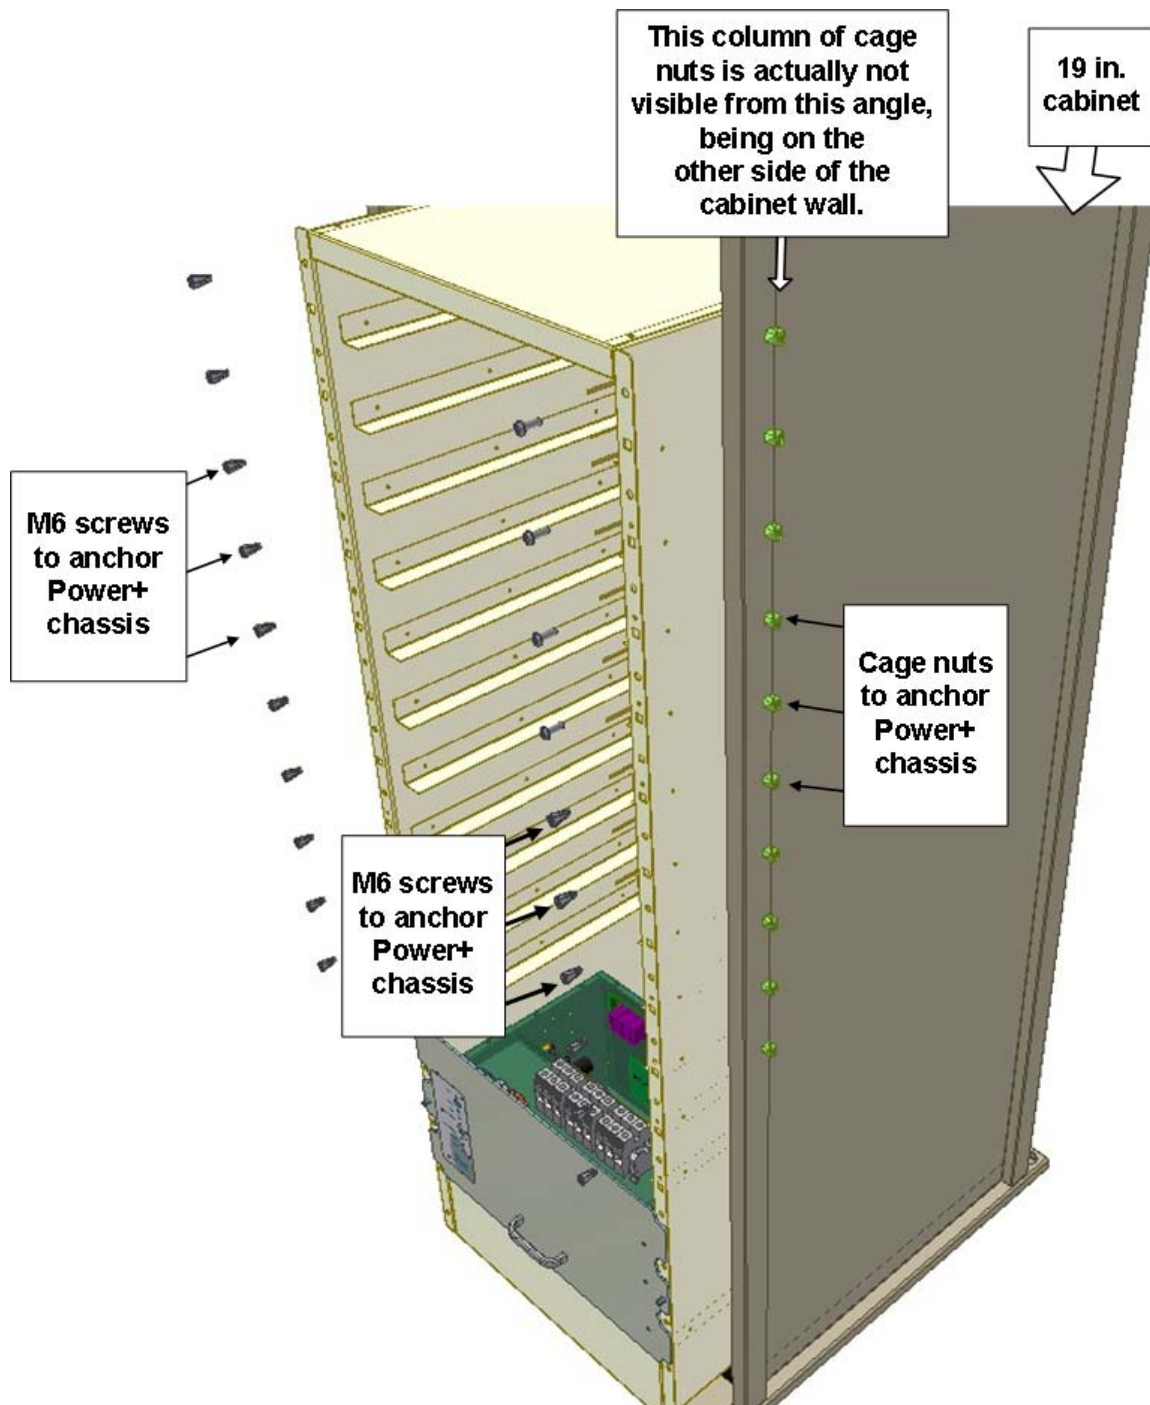

Figure 10: Installing the Freestyle in a rack (f)
8. Secure the Power+ chassis to the 19-inch cabinet by inserting M6 screws through the Power+ chassis and the mounting flange of the 19-inch cabinet, into the cage nuts. See Figure 10 below. (Remember that you also have to leave cage nuts in the 19-inch cabinet free for the power module screws.)